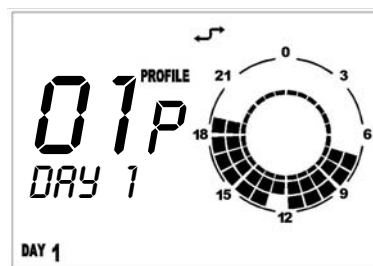

Figure 7 – Daily profile
5. In the upper right-hand corner of the display, the word **PROFILE** and the selected profile number will appear and be flashing (Figure 7).